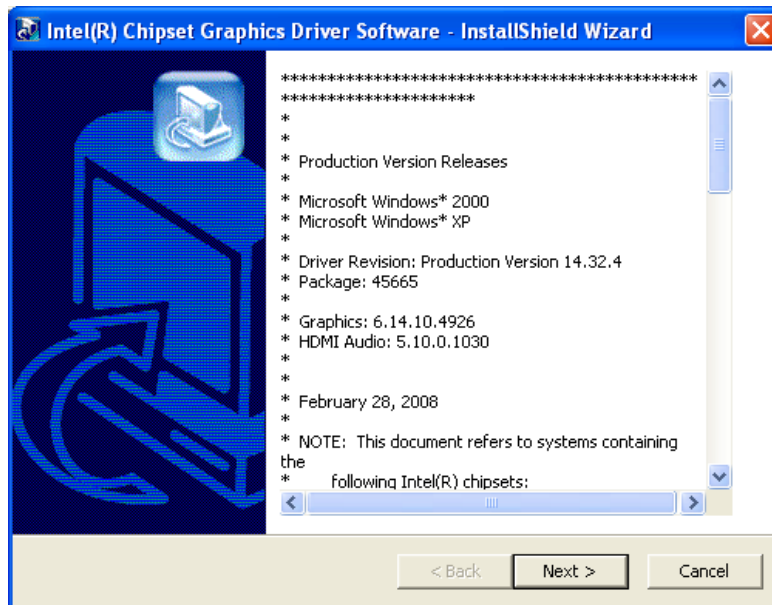

Figure 5-8: Graphics Driver Read Me File
Step 4: The **Read Me** file in **Figure 5-8** appears.